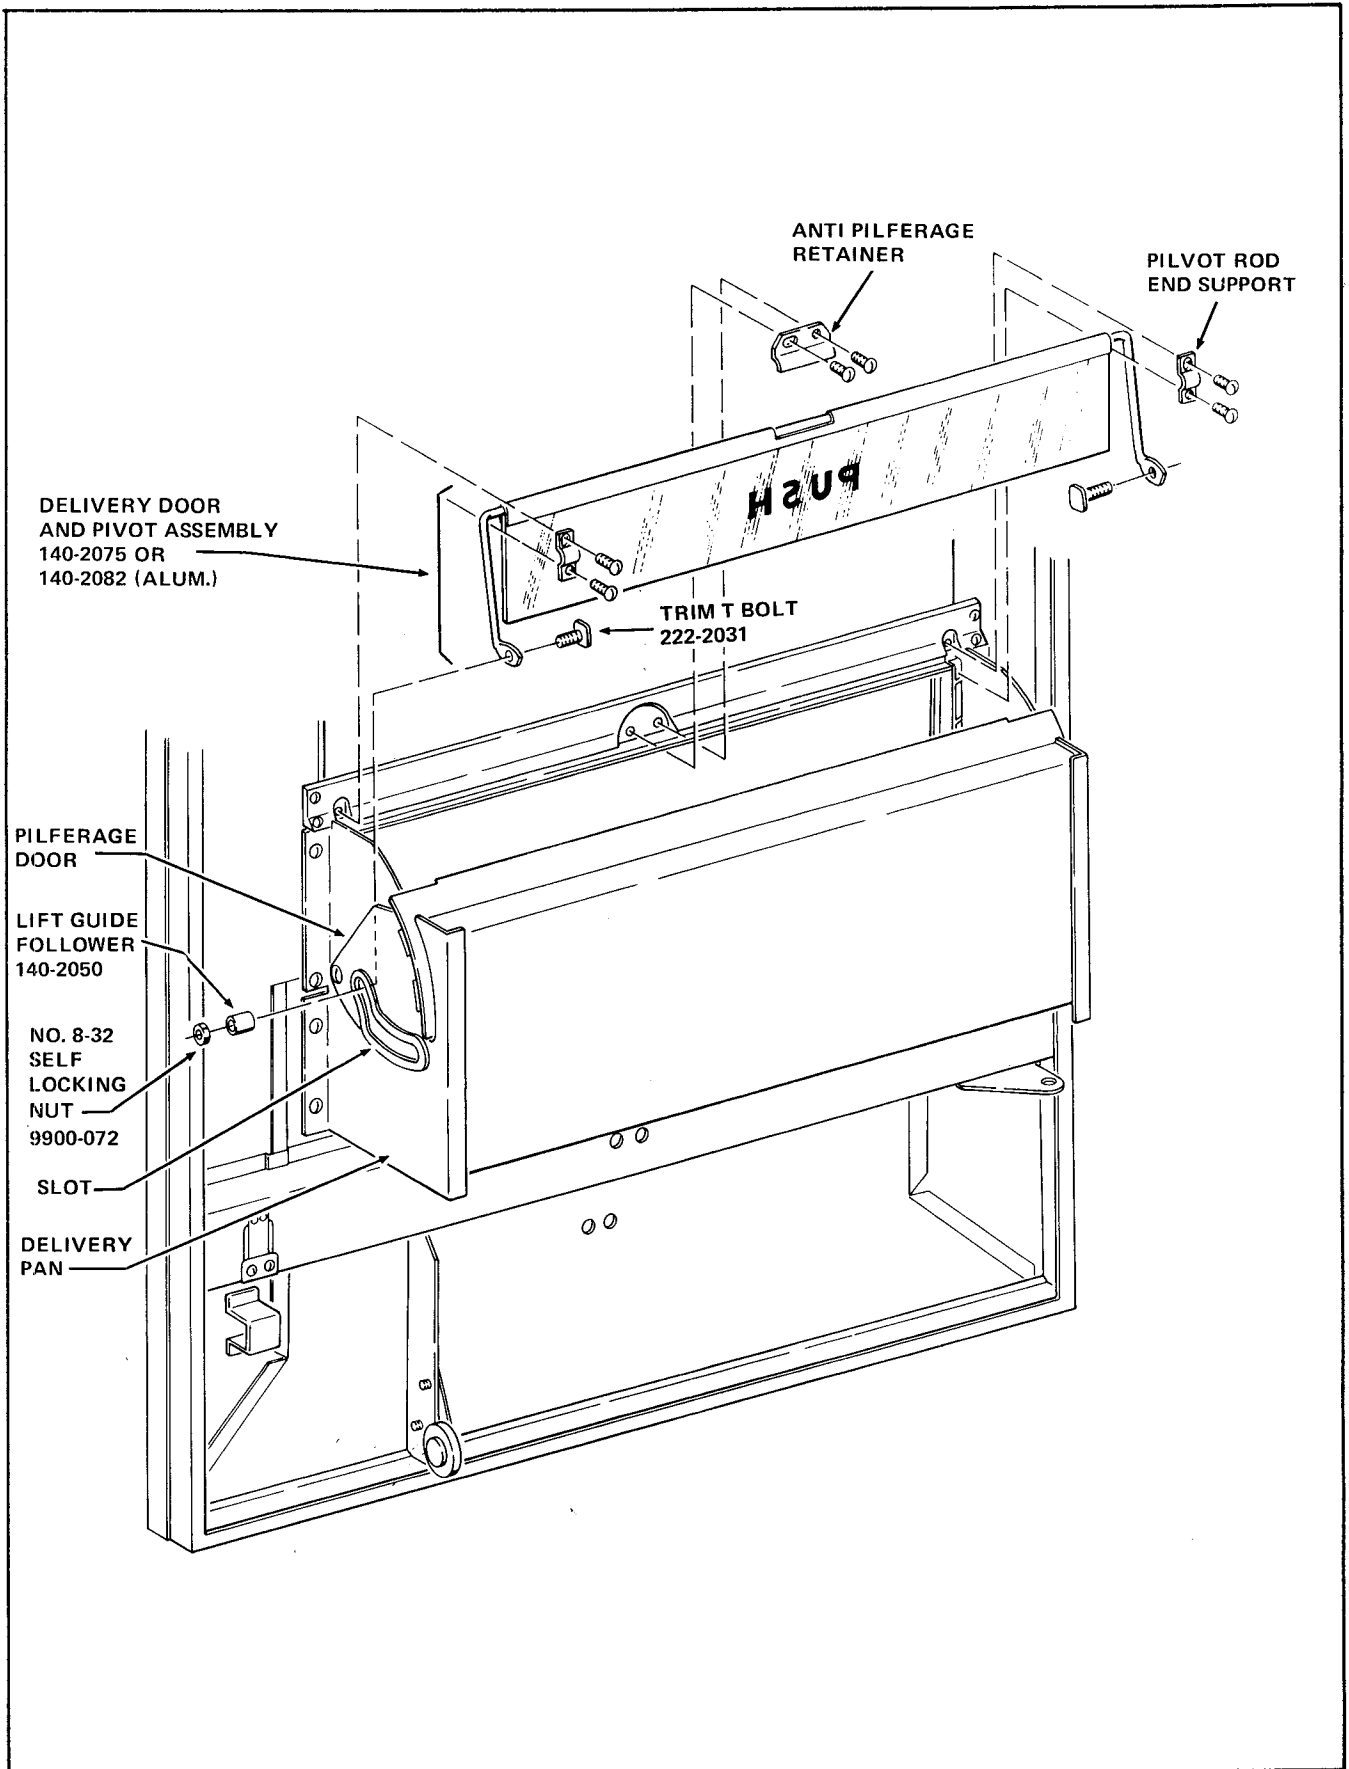

FIGURE 2
1. Push the Trim T-Bolts, Part Number 222-2031, included in the Kit, through the holes in the ends of the Delivery Door Pivot Assembly with the heads of the Trim T Bolts toward the inside as in Figure 2.
2. Slide the ends of the Delivery Door Pivot Assembly between the end of the Pilferage Door and the ends of the Delivery Pan so that the Trim T Bolts protrude through the slots in the ends of the Pilferage Door. See Figure 2.
3. Slide the Lift Guide Followers, Part Number 140-2050, included in the Kit, over the Trim T Bolts. See Figure 2.
4. Attach the Lift Guide Followers with the No.8-32 Self Locking Nuts, Part Number 9900-072, included in the Kit. See Figure 2.
5. Attach the Delivery Door and Pivot Assembly to the Cabinet Door with the Pivot Rod End Supports and Screws removed in Step 3. Section A, PARTS REMOVAL. See Figure 2.
6. Install the Anti Pilferage Retainer and two screws, removed in Step 4, Section A, PARTS REMOVAL, on the Cabinet Door. See Figure 2.